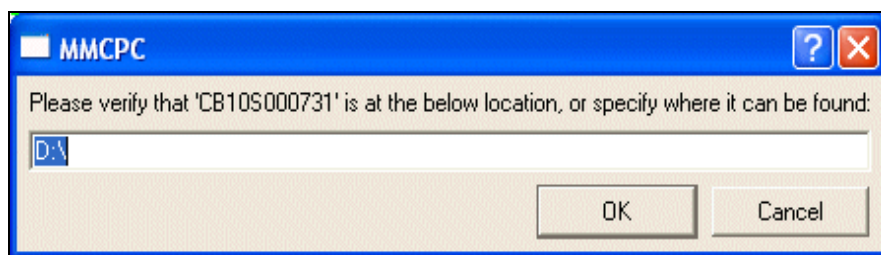
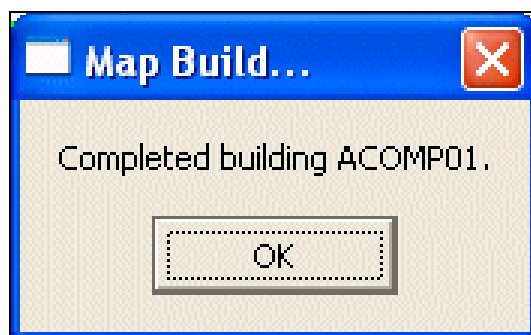

Fig. 63 — Build map data source locator
Fig. 64 — Build map completion message
5. The build process will begin. For sources on CD-ROM, MMCP requests the user to insert the CD-ROM or to locate an alternate location (Fig. 63) and click OK to continue. When the window appears indicating the build is complete, click OK (Fig. 64). All TAMMAC theater map loads are saved to C:\MMCP\TAMMAC\THEATER and all TAMMAC mission map loads are saved to C:\MMCP\TAMMAC\MISSION. The Mission Planning System is expected to read and/or copy the appropriate mission load from the MMCP mission directory. MMCP will write TAMMAC theater loads as discussed in the following section.